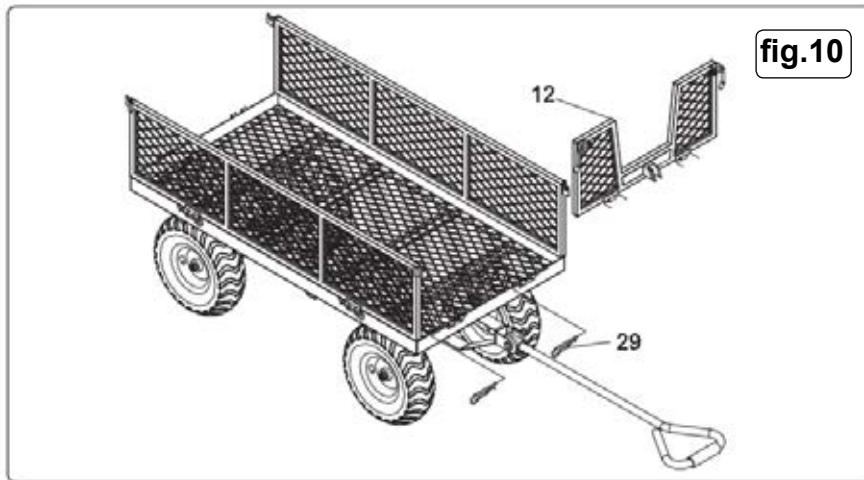

fig.10
5.10. FRONT PANEL ASSEMBLY See fig.10